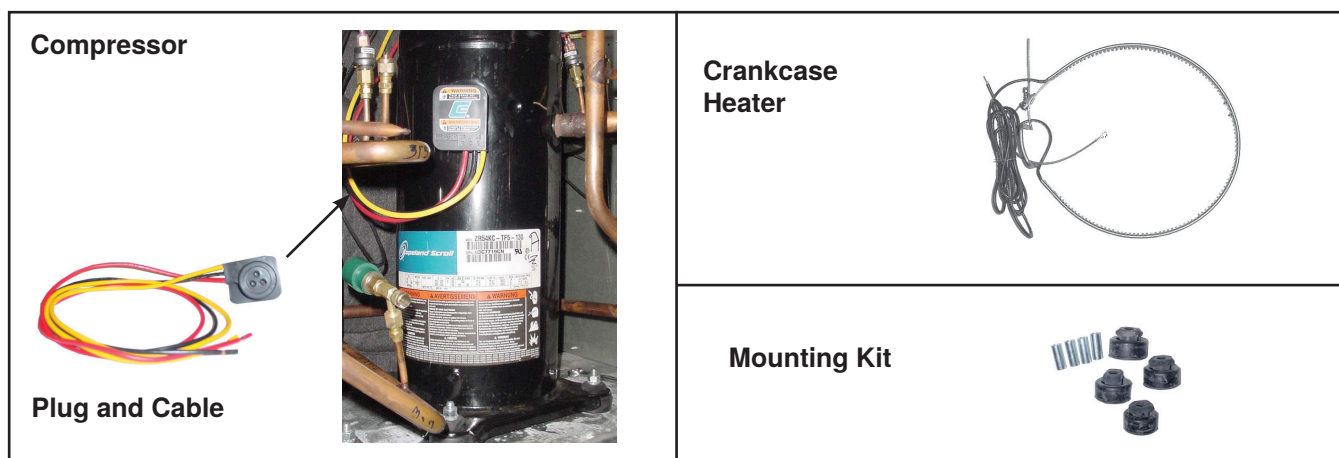

Figure 6. Compressors and Compressor Components (Refer to Table 7, Table 8, and Table 9)
- Compressors and compressor components are shown in Figure 6. Compressors are listed in Table 7 (IMPORTANT: compressor PN is listed by refrigerant (R22 or R407C)—ensure that compressor PN is correct for refrigerant being used). Compressor plugs and mounting kit are listed in Table 8. Crankcase heaters are listed in Table 9.